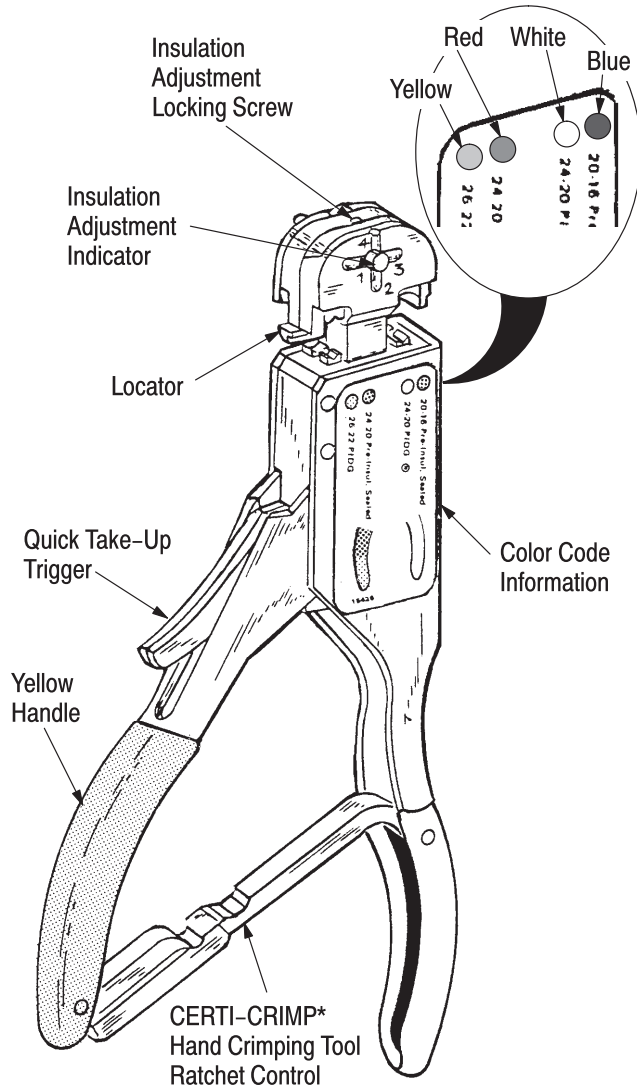

Figure 1
This instruction sheet covers the use of “T”-HEAD Crimping Tools 59170, 59250, 59275, 59300, 69692-1, and 69693-1. See Figure 1. These tools crimp:
Note that tool handles and terminal, splice and cap insulation are color coded for a given wire range as listed in Figure 2. Crimp the color coded terminal, splice or cap in the matching color coded portion of the tool. For example, when using Hand Tool 59275, yellow coded PIDG terminals and splices and red coded pre-insulated seated splices must be crimped in that portion of tool displaying the red and yellow coded dots and yellow handle. See Figure 1.
2. Open crimping dies by closing handles until ratchet releases. See Figure 1. Note, that once ratchet is engaged, handles cannot be opened until they are first fully closed.